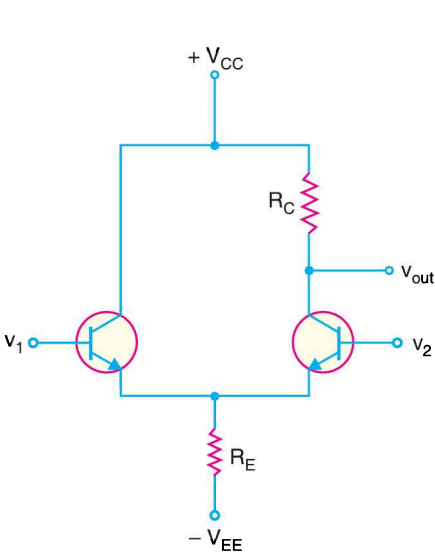
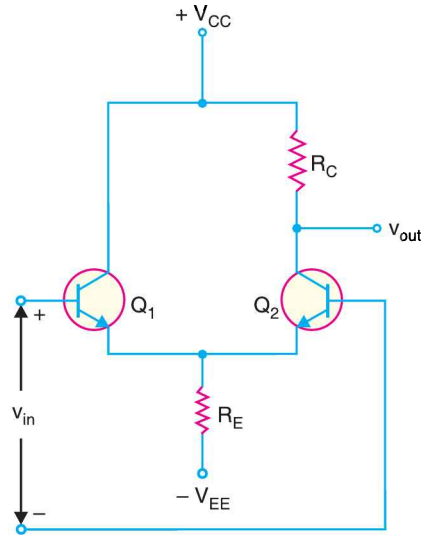
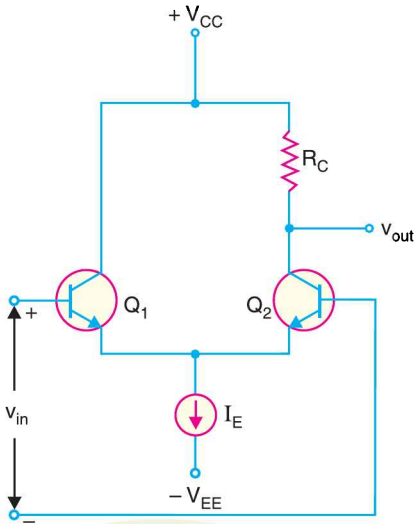
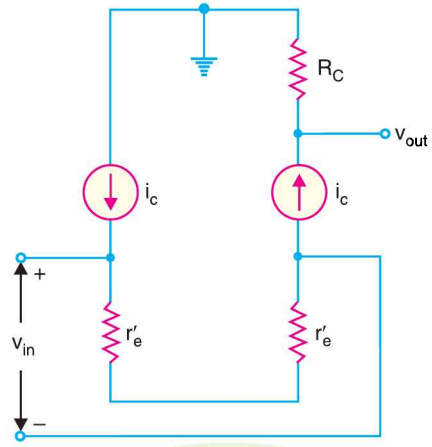

Fig. 25.27
Fig. 25.28
Fig. 25.29
Fig. 25.30
A differential amplifier (DA) has a noninverting input and an inverting input. Fig. 25.27 shows the differential amplifier (DA) that is used in IC OP- amps. Note the circuit has double-ended input and single-ended output.
If you look at the differential amplifier circuit in Fig. 25.27, it responds to the difference between the voltages at the two input terminals. In other words, DA responds to v_{in} ($= v_1 - v_2$). Therefore, the circuit shown in Fig. 25.27 can be drawn as shown in Fig. 25.28.
Ideally (*i.e.*, V_{BE} is negligible), the tail current I_E in Fig. 25.27 is $I_E = V_{EE}/R_E$. Once the values of V_{EE} and R_E are set, the tail current is constant. Therefore, to simplify a.c. analysis, we can replace the tail current by a current source (I_E) as shown in Fig. 25.29. This will simplify the a.c. analysis of the circuit with almost no loss of accuracy.
A.C. Equivalent Circuit. We can easily find the a.c. equivalent circuit of differential amplifier by applying the usual rules to Fig. 25.29. The rules are to short all the capacitors, and reduce all d.c. sources to zero. Since a differential amplifier has no capacitors, all that we have to do is to reduce the d.c. sources to zero. Reducing a voltage source to zero is equivalent to replacing it by a short. Reducing a current source to zero is equivalent to opening it. In Fig. 25.29, this means ground the V_{CC} point, ground the V_{EE} point and open the current source. Applying these conditions to Fig. 25.29, we get the a.c. equivalent circuit of differential amplifier shown in Fig. 25.30.
Voltage gain. Fig. 25.30 shows the a.c. equivalent circuit of a differential amplifier. This is how a differential amplifier looks to an a.c. signal. Note that r'_e ($= 25 \text{ mV/d.c. emitter current}$) is the a.c. emitter resistance. Since the two r'_e s are in series, the same a.c. emitter current exists in both transistors. The a.c. emitter current is given by;